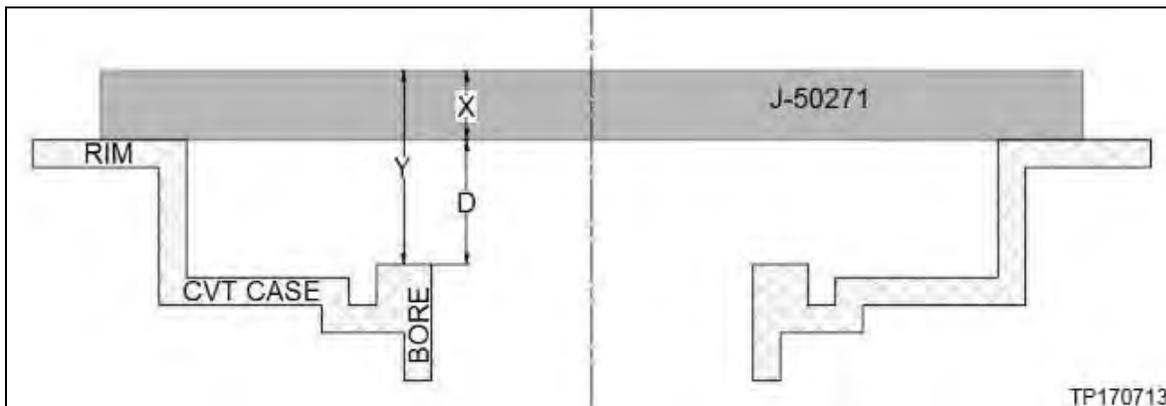

Figure 5M
**NOTE:** Only if a Gauge Block (J-50271) is not available, measurement "X" (Figure 5M, page 56) will need to be determined for the measuring bar being used. This can be done either with a set of calipers or with Digital Depth Gauge (J-50272).
8. Measure the average distance (Y) shown in Figure 5M as follows: